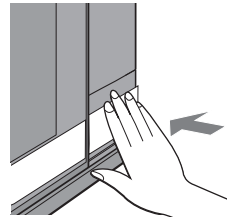

Figure 3
5. Install the water tank by pushing it firmly back into place. (Figure 3)